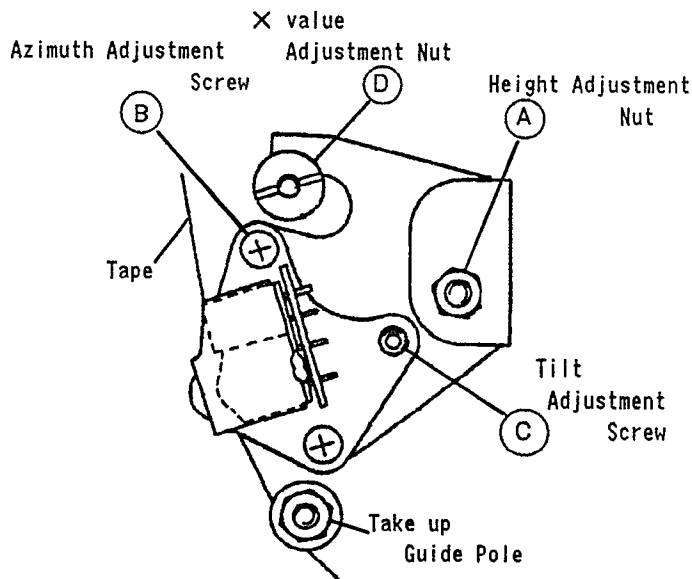

Fig. 5-9
3. Adjust the X value adjustment nut ④ for maximum PB FM Signal for CH1 by using F6-N test tape (Refer to Fig. 5-9).